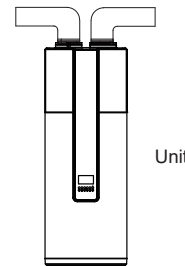

Fig.3-4
- In case of rain entering to internal components of the unit, the component might be damaged or causing physical danger. (Fig.3-4)
- In terms of the unit connect with duct reaching to outdoor, a reliable water-resistant measure must be conduct on the duct, to prevent water from dropping into internal of the unit. (Fig.3-4)